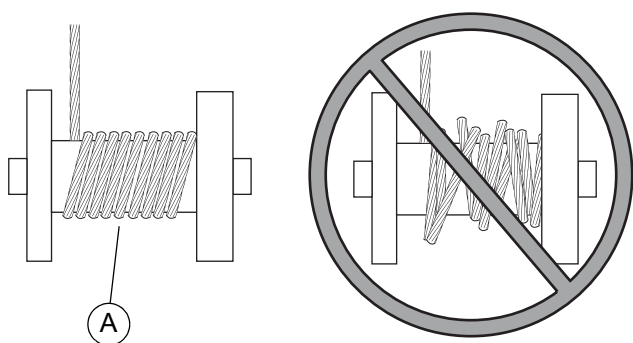

Figure 3-3. Winch Cable Alignment
- See **Figure 3-3**. Verify cable winds evenly around winch drum as shown (A) to prevent cable damage.